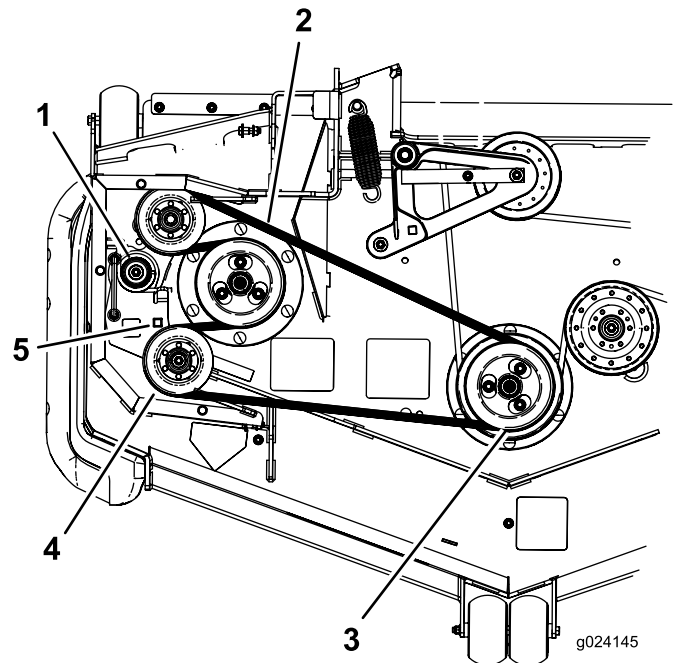

Figure 97
7. Use a ratchet in the square hole in the idler arm to remove tension on the idler spring (Figure 97).
8. Remove the belt from the mower deck pulley (Figure 97).
9. Remove the belt from the remaining pulleys (Figure 97).
11. Using the ratchet in the square hole, remove the tension on the spring, and guide the new belt around the idler pulley (Figure 97).